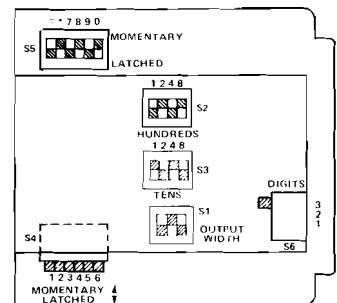

figure 4. Option switch locations
**3.05** Six option switches must be set before the 6073 is placed into service. These switches and their functions are described in paragraphs 3.06 through 3.09. Locations of these switches on the module's printed circuit board are shown in figure 4.